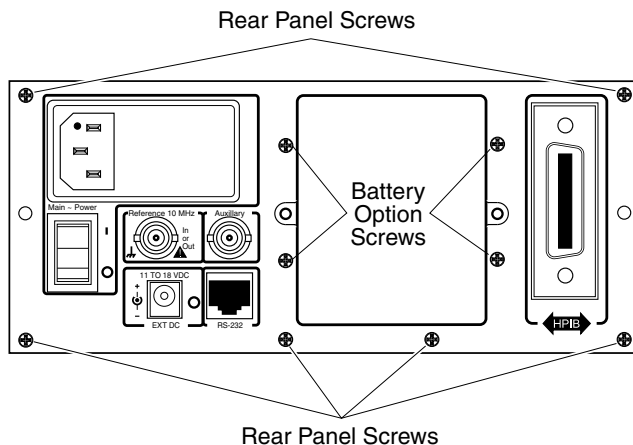

Figure 3-11 Rear Panel Assembly Screws
- 4 If the Battery Option is installed, remove the four 4-40 x 3/16-inch self-locking flathead machine screws that attach the rear panel assembly to the Battery Option chassis as shown in Figure 3-11 (two screws on each side of the opening, and two more screws at the bottom of the opening).
- 5 Remove the six 4-40 x 3/16-inch self-locking flathead machine screws that attach the rear panel assembly to the chassis (see Figure 3-11).